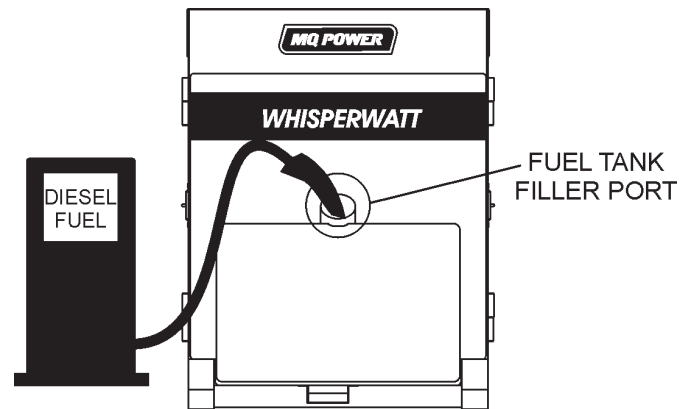

Figure 30. Fueling the Generator
2. Open cabinet doors on the “right side” of the generator (from generator control panel position). Remove fuel cap and fill tank (Figure 30).